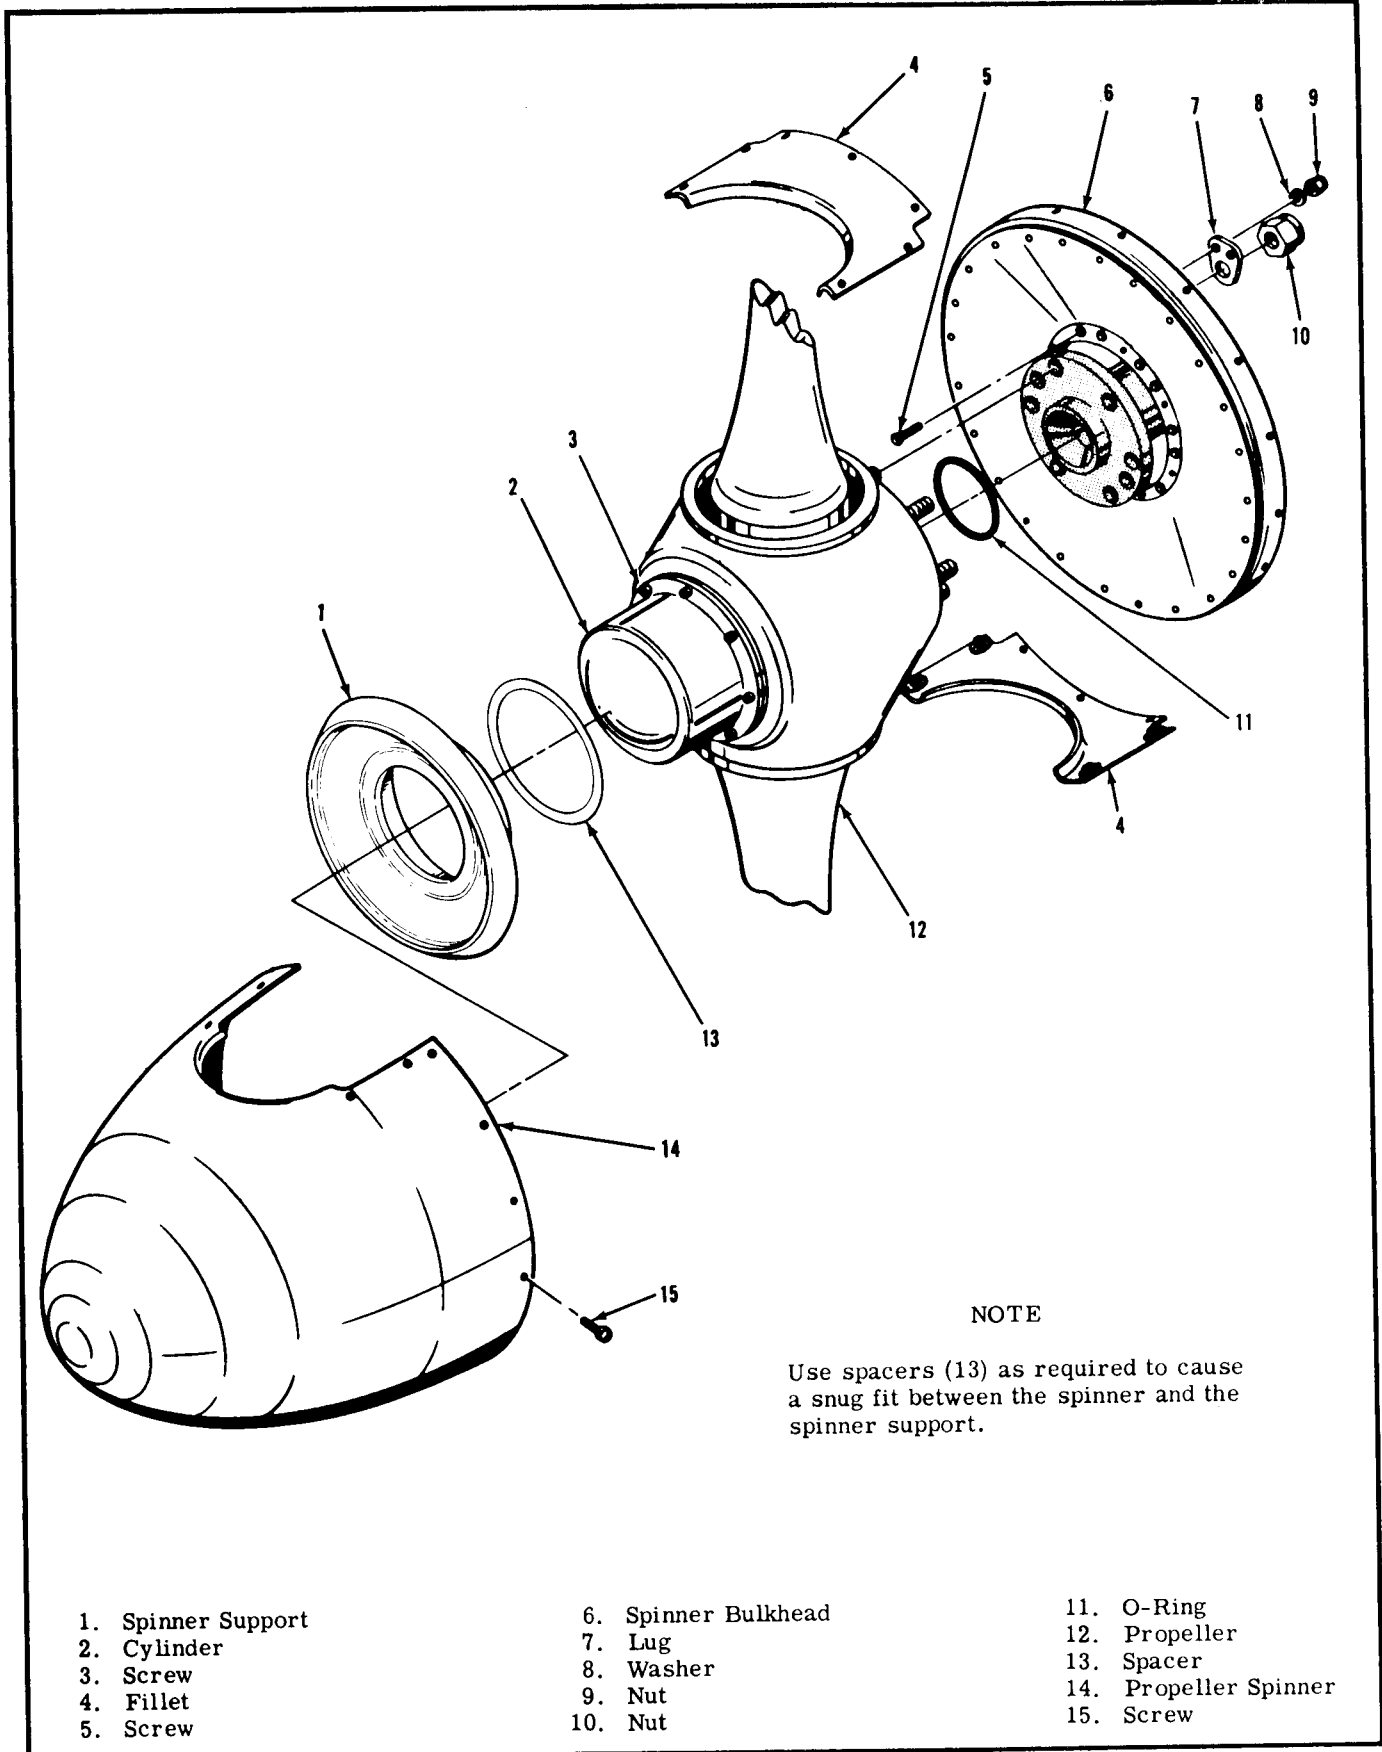

Figure 14-5. Typical McCauley Propeller Installation
- b. Assemble spinner bulkhead to propeller, positioning the bulkhead so propeller blades will emerge from the spinner with ample clearance. Safety the support lug screws as shown in figure 14-5.
- f. Position spinner support on front of propeller (1962 and on) and install spinner. See the "Note" on figure 14-5.